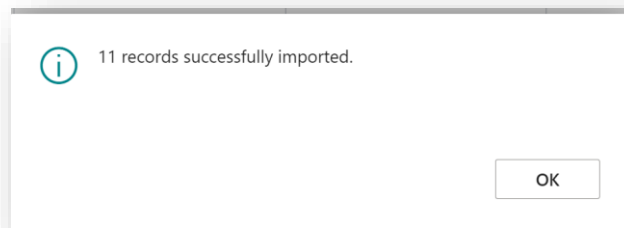

Figure 6-4
4. You will then receive a message like the one below to confirm that the default setup has imported. Choose **OK** (Figure 6-4).